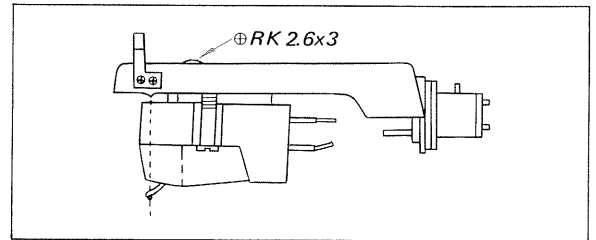

Fig. 2-7. Overhang adjustment
4. After installing the cartridge, readjust the stylus tip position by loosening the screw (Ø RK 2.6x3) that aligns the stylus tip with the mark on the shell head as shown in Fig. 2-7.